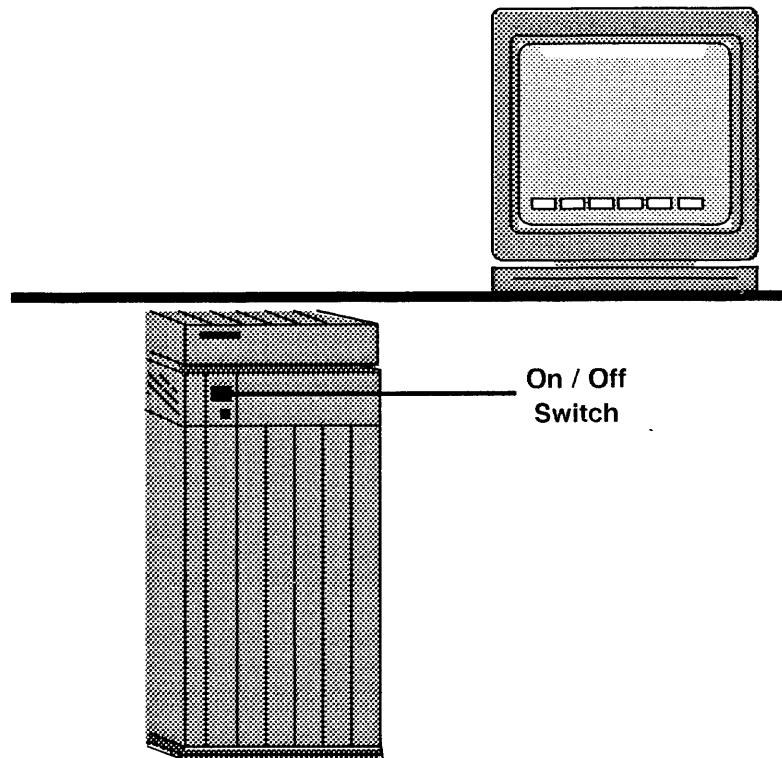

Figure 33. Switching On the Processor Unit Power
2. Switch ON the processor power. The screen should illuminate (Figure 33).